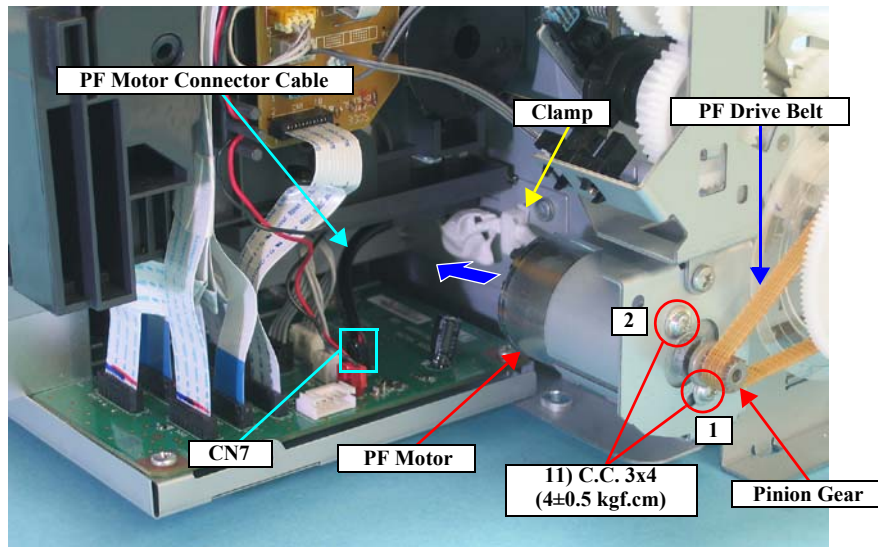

Figure 4-135. Removing the PF Motor
- Tighten the screws in the order shown in Figure 4-135.